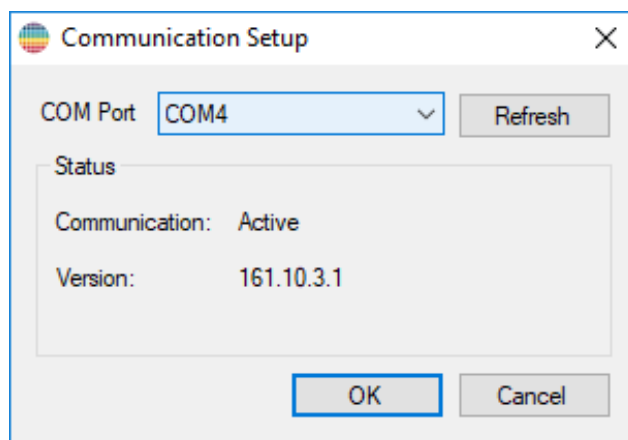

Figure 5: ASEK-20 Connected
5. If the ASEK-20 is turned on, the Status field on the Communication Setup dialog box will change from Inactive to Active, and the firmware version will be displayed (see Figure 5). If the ASEK-20 is not on, do the following: